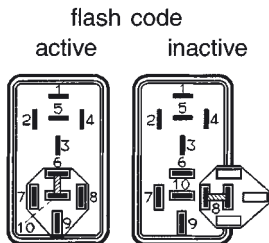

Fig. 1
1.3 As shown in Fig. 1, change the position of the black test plug (the bridge between contacts "BK 6" and "BK 10") to start the flash code. After approximately 5 seconds the red warning lamp will start to flash.
- 1.8 Plug the black test plug into the parked position (see Fig. 1). Replace this list in the housing!